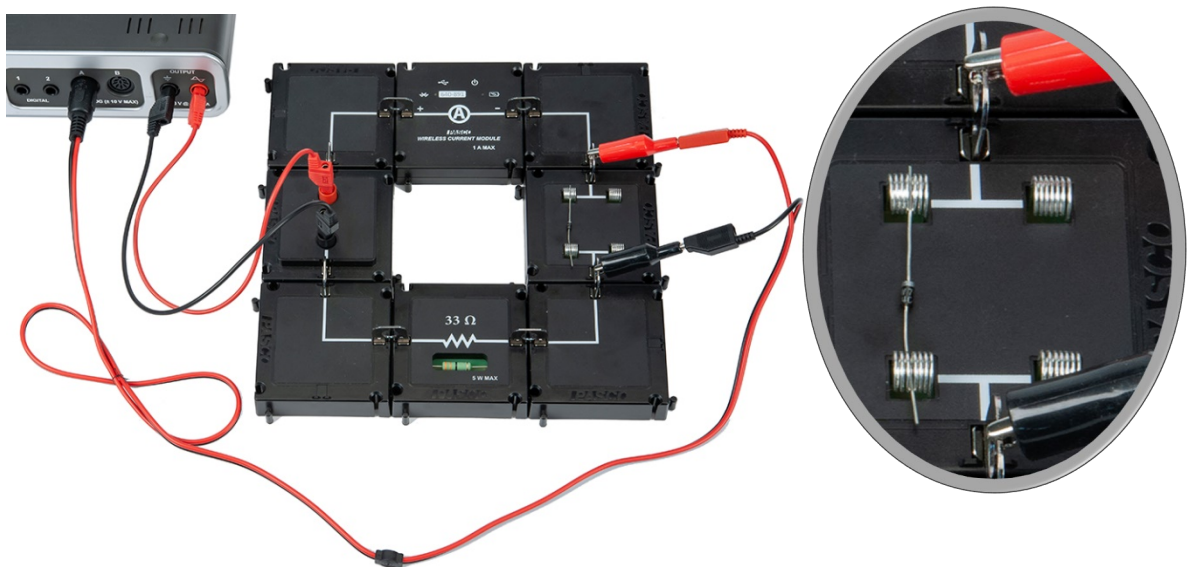

Figure 3: Diode "up" Setup
7. Replace the light bulb module with the spring clip module and place a diode in the spring clips as in Figure 3. Note that the diode looks like a small black resistor with one grey end. Arrange the diode so the grey end is "up" toward the red lead from the 550 Interface.